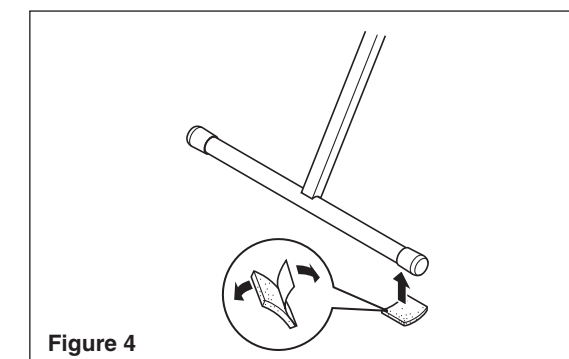

Figure 4
- \* If the stand is unstable, affix the cushioning sponges to the pipes of the legs (Figure 4).